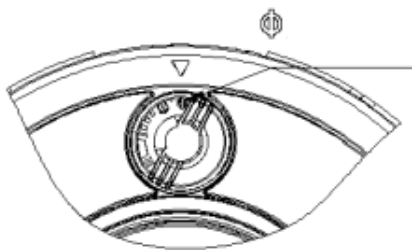
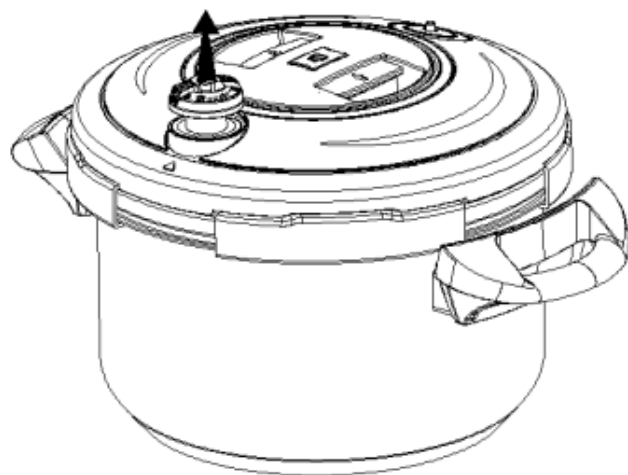

Fig 12
Fig 13
(2) Maintenance of Sealing gasket.
(3) Maintenance of control valve and open-close valve, safety valve.
b. Please clean the pressure regulating valve after every use. Taking out the regulating valve, adjust the regulating valve to take out position Φ (as Fig12), take out the regulating valve (as Fig 13), and then clean the valve.